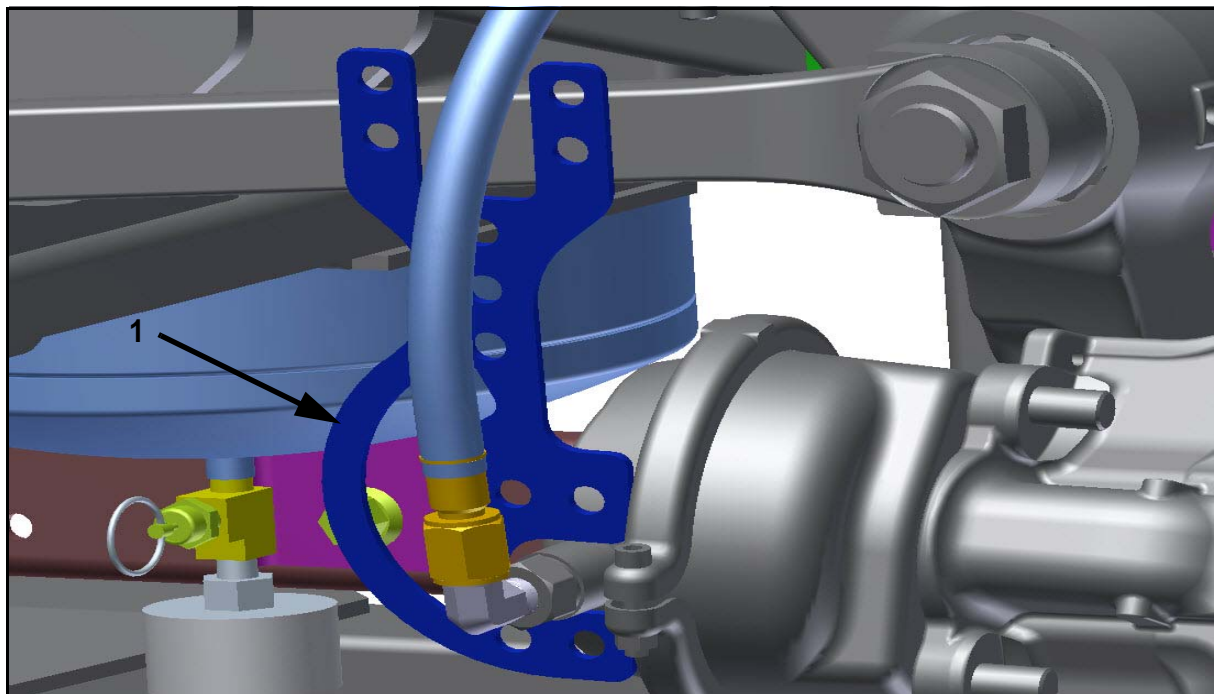

Figure 10. Front brake line gauge location.
17. Orient and connect the new front brake hose assembly to the 90 degree fitting on the front brake chamber as shown in Figure 10.
19. Orient the front brake line gauge, p/n 20-04-0028, against the front brake chamber clamp as shown in Figure 10. Center the hose routing with the upper opening of the front brake line gauge and tighten the swivel nut to secure in position, ensuring that there is no twist or flex at any point throughout the routing. Torque nut to 56-60 ft-lbs.
Item	Figure 10 Description